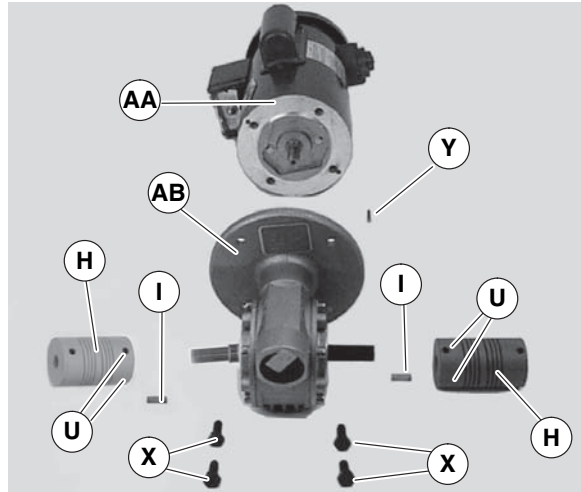

Figure 37
- Remove four screws (Figure 37, item X). Detach motor (AA) from gear reducer (AB). Retain shaft key (Y).
- With key (Figure 37, item Y) in keyway, slide motor (AA) and gear reducer (AB) together. Install screws (X) and tighten.
- Attach couplings (Figure 37, item H) to gear reducer shaft. Tighten set screws (U) to 32 in-lb (4.7 Nm).